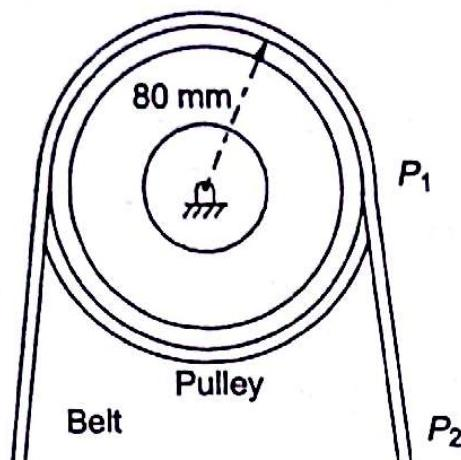

Fig. 11.10
11.3 Belt speed over a pulley changes uniformly from 4 m/s to 6 m/s over an interval of 2 seconds. Calculate the magnitude of accelerations at points P_1 and P_2 half way through the time interval (Fig. 11.10).